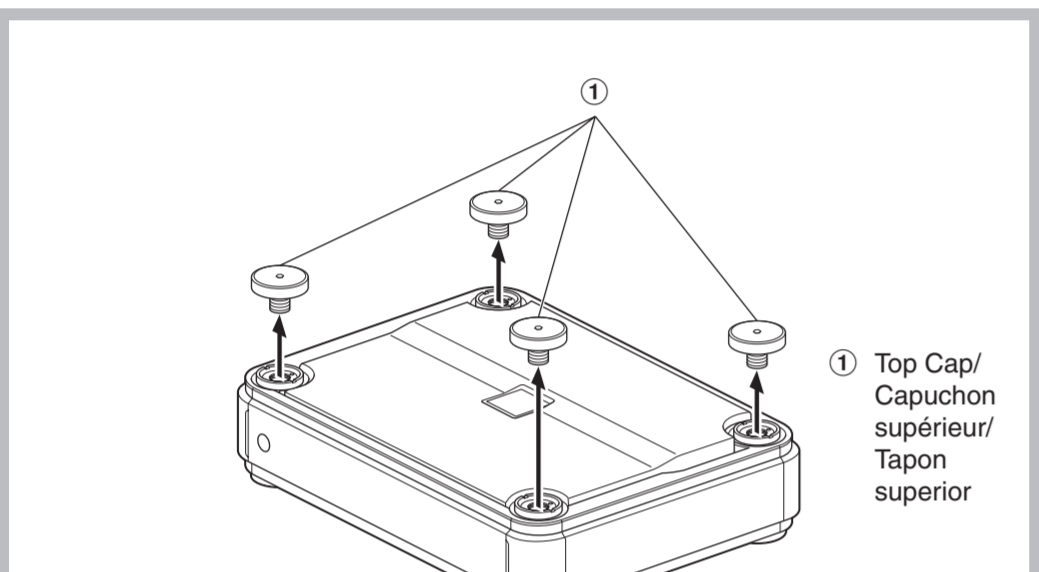
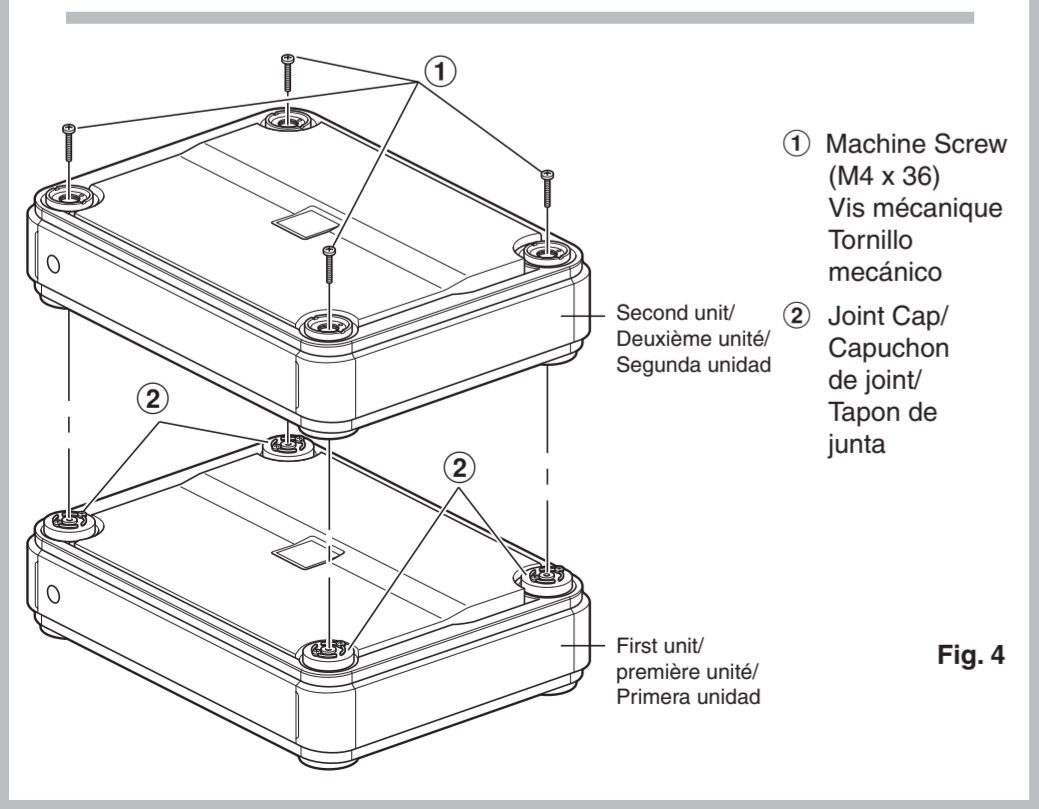

Fig. 1
Fig. 4
INSTALLATION (Fig. 1 - Fig. 4)
- Remove the four corner top caps on top using the hexagon wrench (large, supplied). Refer to fig. 1.
- Insert the four machine screws (M4 x 36, supplied) through the top of the second unit into the four joint caps of the lower unit to connect them together. Refer to fig. 4.